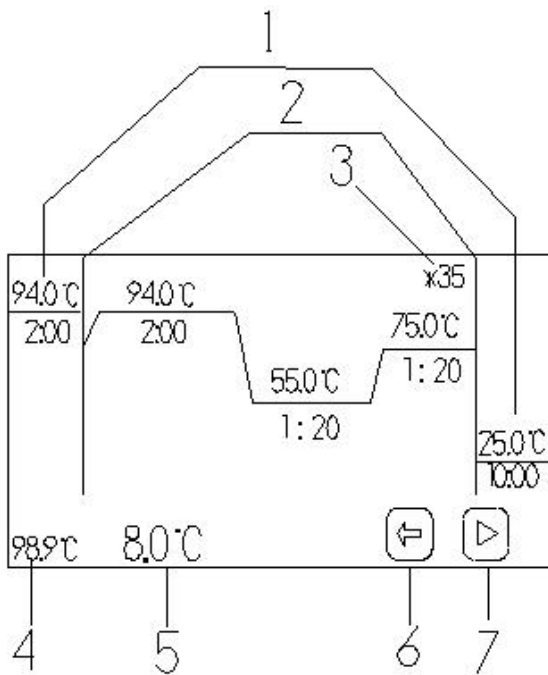

Fig. 2, PROGRAM page screen
The thermal profile of a program is shown graphically in its PROG page. The parameters of each segment are shown on each side of the segment (1,2 in Fig.2). The segments within the bracket are to be cycled, and the number of cycles are shown on the upright corner of the bracket (3 in Fig.2). The segment outside the bracket do not cycle. The current temperature of the sample blocks (No.5 in Fig.2) and the heated lid temperature (No.4 in Fig.2) are shown on the lower left.
The heated lid can be turned on/off by tapping it to white/gray. While entering the PROGRAM page (see Fig.2), the heated lid starts heating. When the heated lid is turned on, the program starts to run when the heated lid reaches 85°C. When the program completes, it automatically goes to 8°C and the heated lid is turned off. It is recommended to turn off the heated lid when the setting temperature is below ambient. Otherwise, the heated lid has a effect on the upper side of the sample and brings temperature drift to the setting point.
Once a program is selected, the screen shows the PROG page (see "Select a program"), and the heating lid start to work. By tapping the "START" key (7 in Fig.2) on the screen, the thermal cycling program starts, and the program shows the "waiting" mode until the heated lid reaches 85°C. The horizontal line flashes when the current segment is running.
At any time during a program, one can tap the "||" key to pause the program. The block temperature remains at the current temperature (see 5 in Fig.2) and the timer stops counting. To resume the run, tap the "START" key.